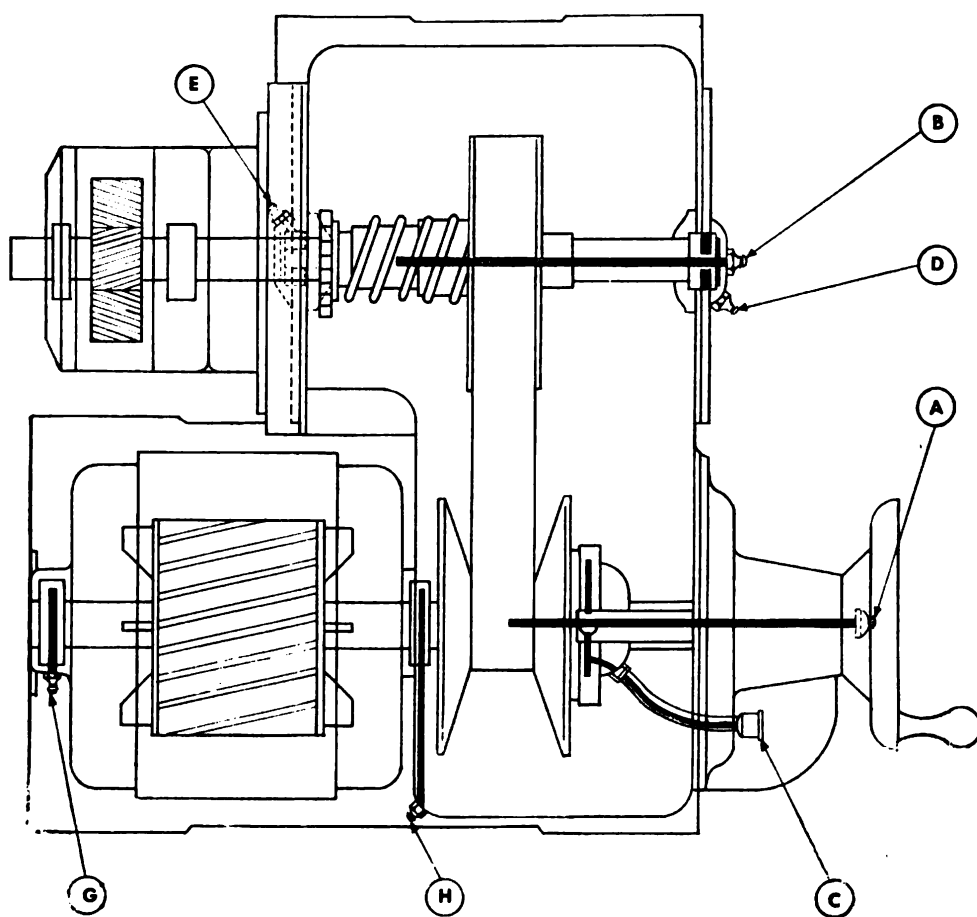

Figure 8. Reeves vari-drive.
d. LUBRICATE DRIVE. Make sure to apply lubricant at all the six force-feed lubrication fittings (fig. 8: A, B, D, E, G and H), and the one cup type fitting (C), use BR grease.